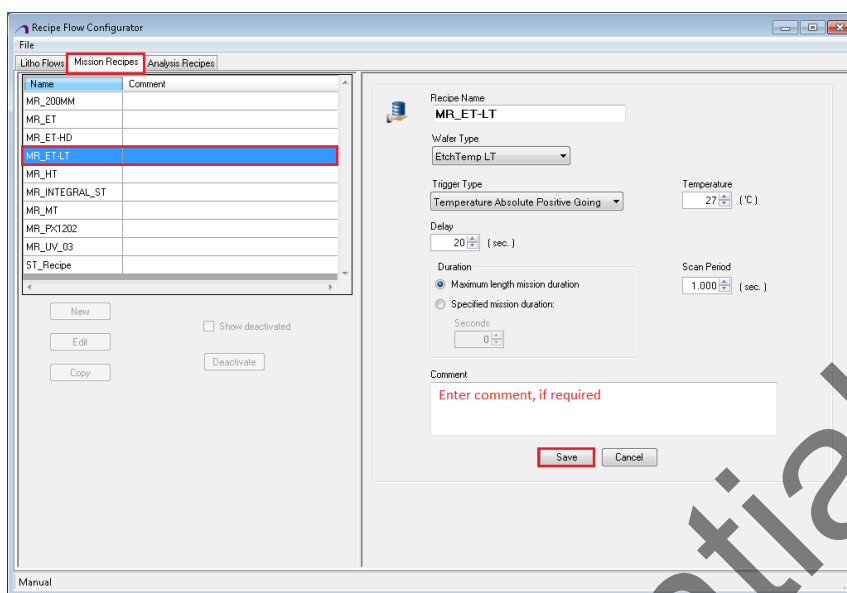

Figure 5-19 To create new recipe
5. Click the **Save** button to add the recipe. You can see the created Mission Recipe in the Mission Recipes tab, as shown in Figure 5-19.